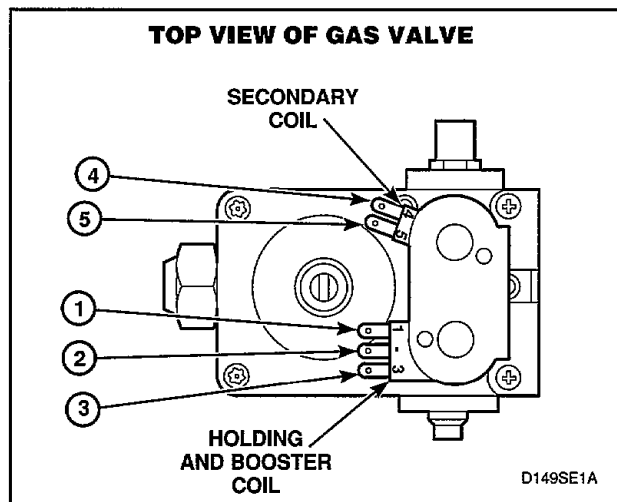

Figure 53
- (1) Holding Coil (see *Figure 53*)
- (2) Booster Coil (see *Figure 53*)
- (3) Secondary Coil (see *Figure 53*)